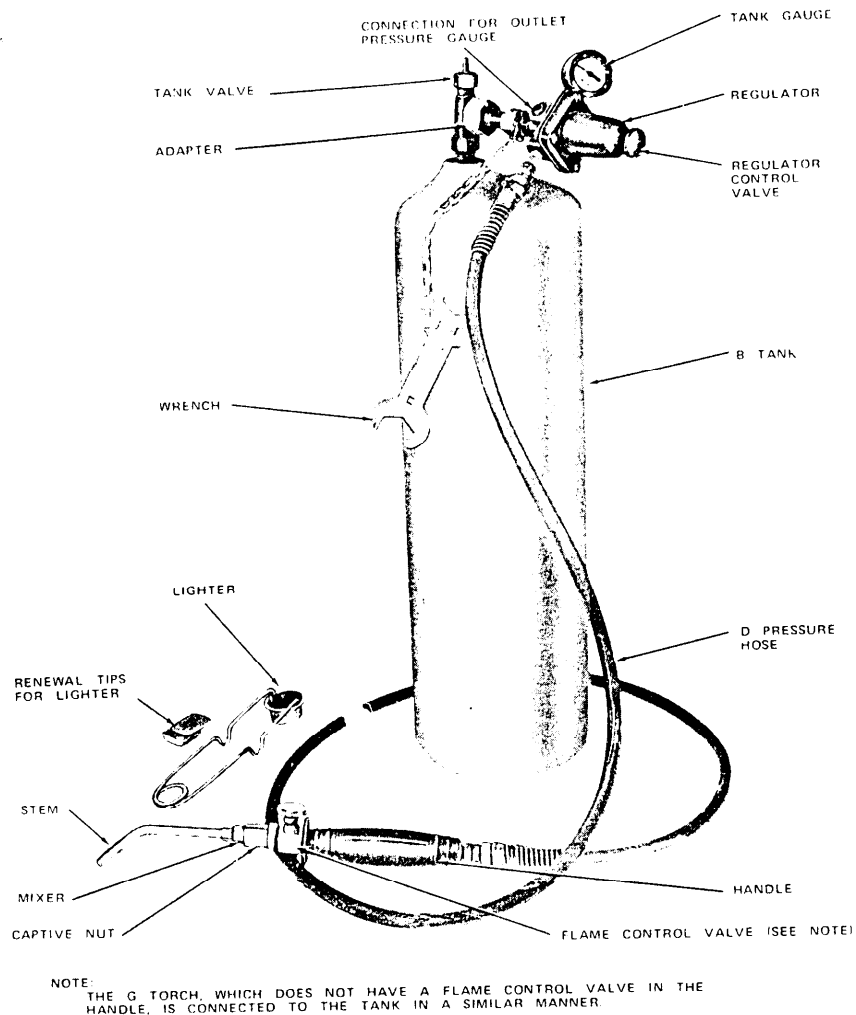

Fig. 2 - F Acetylene Torch Connected to B Tank
- 2.05 The F acetylene torch connected to a B tank is illustrated in Fig. 2. Note the use of the adapter to connect the regulator to this tank.
- 6.01 The acetylene gas is supplied in MC and B tanks at a pressure of 250 pounds per square inch at 70°F. The MC tank is illustrated in Fig. 1 and the B tank in Fig. 2. The tanks are tested by the supplier in accordance with Federal regulations for such equipment and are marked to indicate that they have been tested. The markings on the tanks shall not be tampered with or removed.